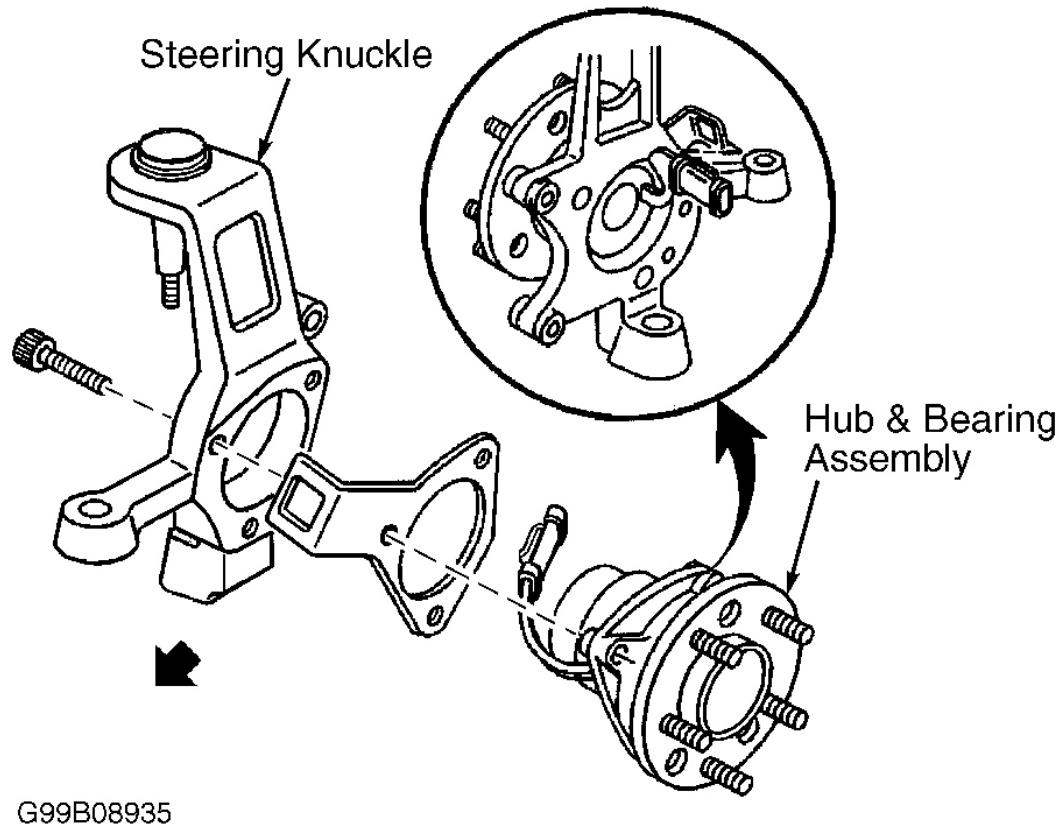
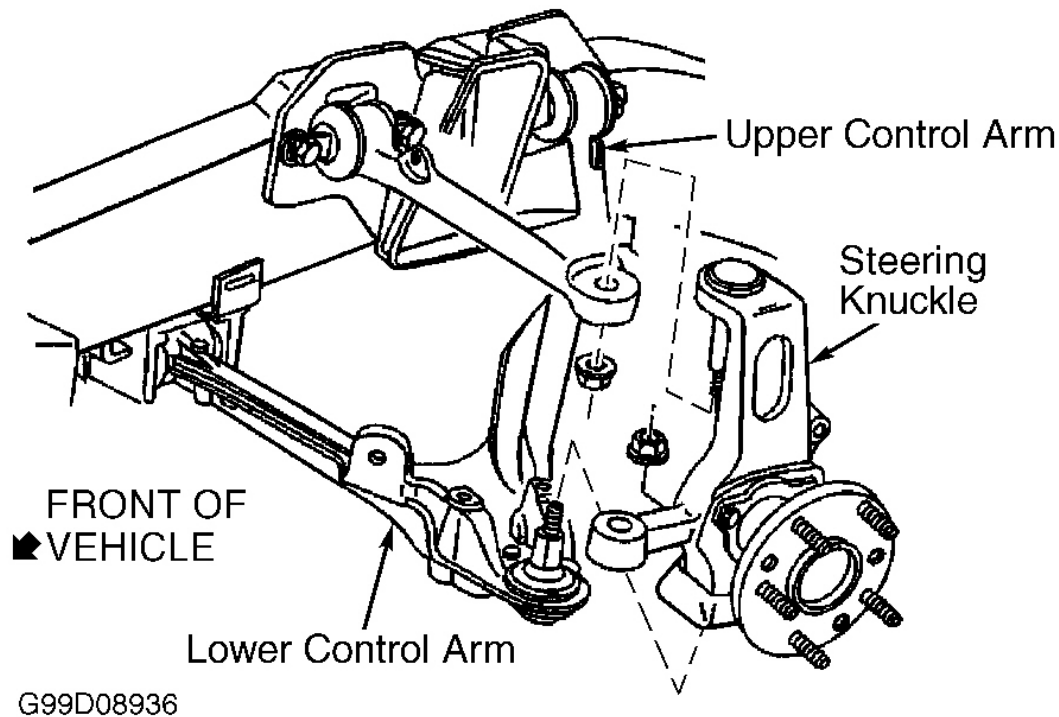

Fig. 3: Exploded View Of Bearing/Hub Assembly & Steering Knuckle
Fig. 4: Exploded View Of Controls Arms & Steering Knuckle
Raise and support vehicle on frame rails to allow suspension to hang free. Remove wheel. Remove brake caliper and rotor. Note position of wheel speed sensor harness for reassembly reference. See **Fig. 3** . At steering knuckle, disconnect speed sensor electrical connector, and remove harness bracket. Remove hub and bearing assembly bolts and nuts. Remove hub and bearing assembly.
2. Disconnect wheel speed sensor electrical connector. See **Fig. 3** . Remove cotter pin and nut from upper ball joint stud. Separate upper ball joint stud from steering knuckle using Ball Joint Separator (J-33436). See **Fig. 4** . Note position and number of shims between upper control arm shaft and frame. Remove upper control arm bolts and upper control arm.